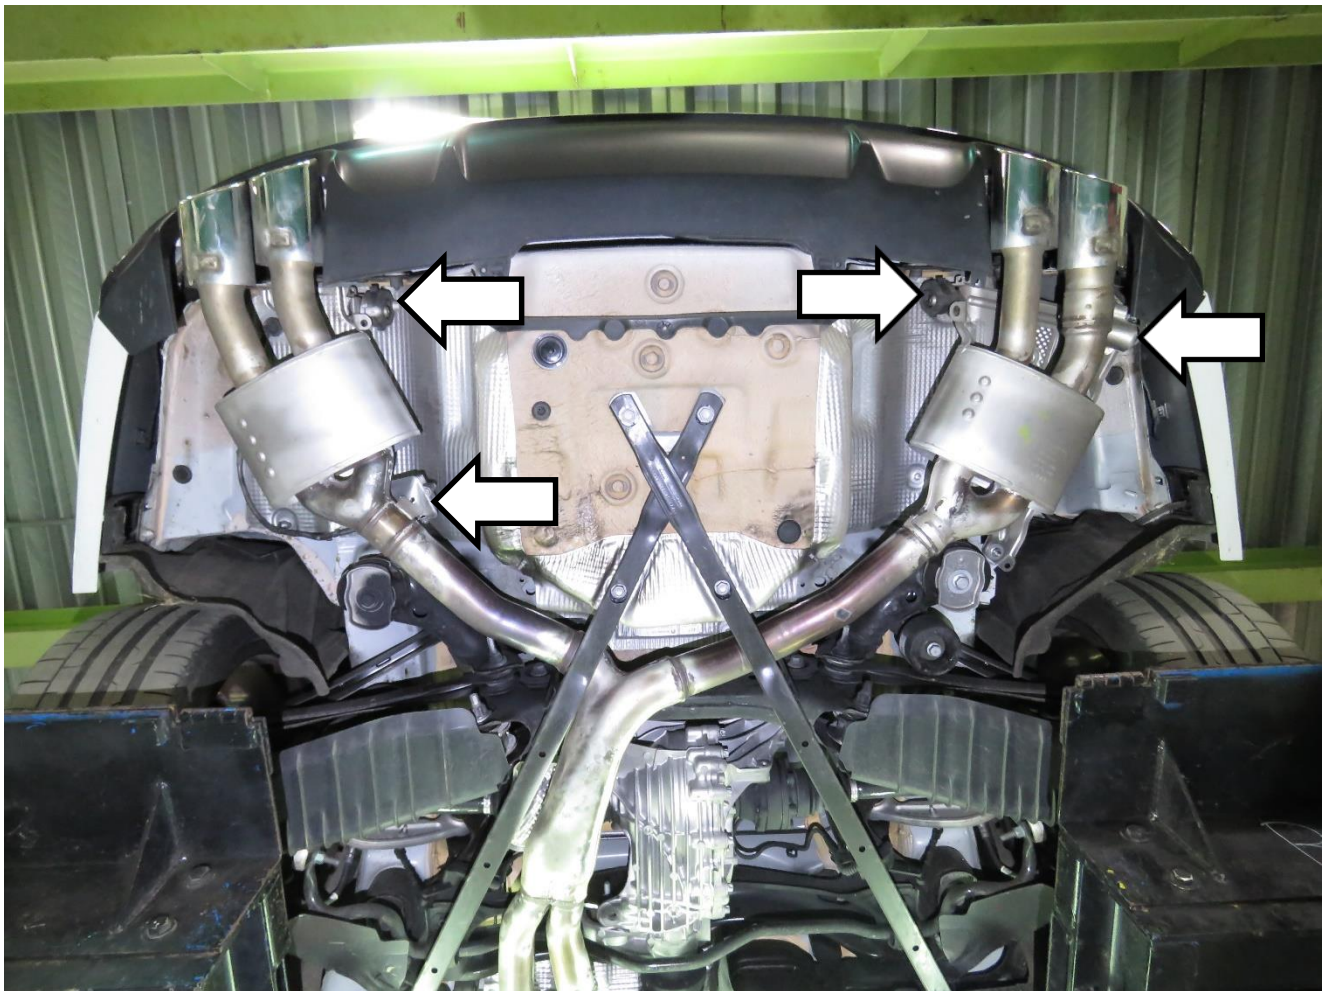

Figure 2
- 3) Remove valve motor plug to remove muffler (Figure 2).